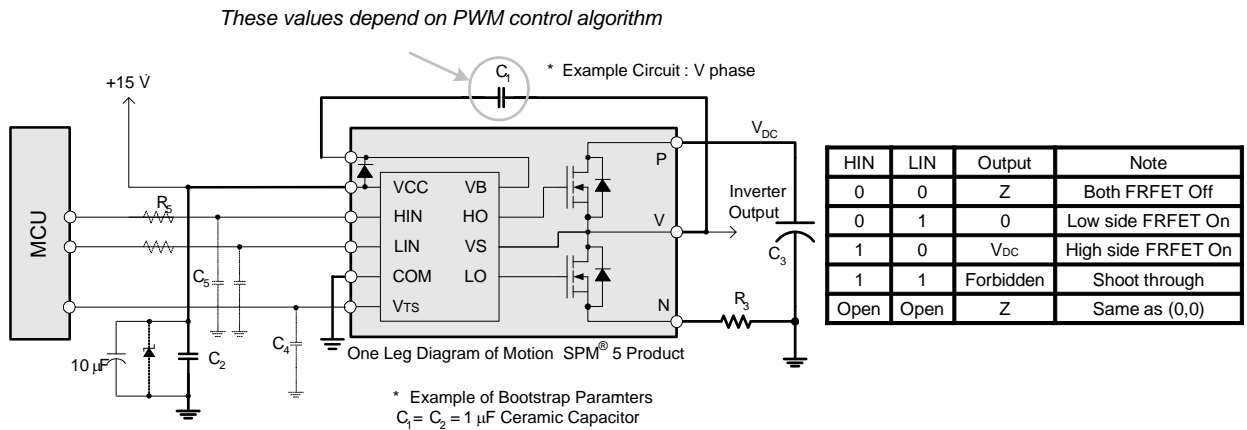

Figure 4. Recommended MCU Interface and Bootstrap Circuit with Parameters
3. Source terminal of each low-side MOSFET is not connected to supply ground or bias voltage ground inside Motion SPM® 5 product. External connections should be made as indicated in Figure 4.